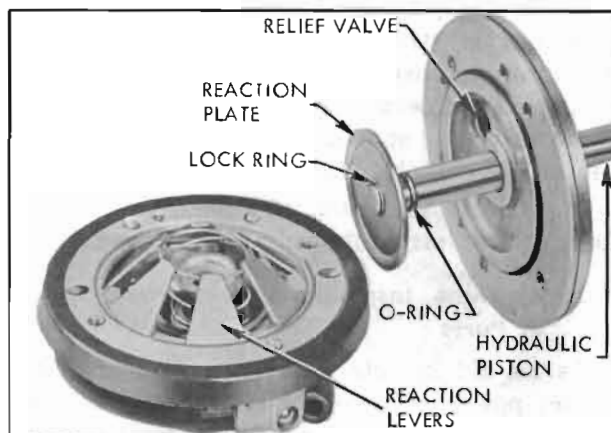

Figure 9-20—Reaction Levers and Related Parts
13. Inspect relief valve which is staked in place in piston guide. Remove relief valve if it is defective. See figure 9-20.
14. From power piston assembly, remove reaction levers, reaction spring, small reaction plate, and diaphragm spring. See figure 9-20.